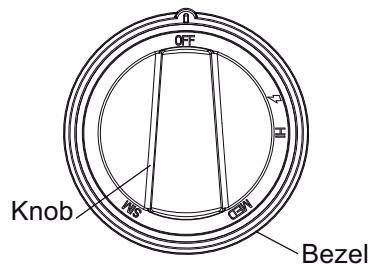

Figure 10: Standard Burner Control Knob
- Check each burner to make sure there is no gap between the burner cap and burner base. See *Figures 10 and 11: Correct and Incorrect Burner Cap Placement* to see examples of correct and incorrect placements of the burner cap.
- You may gently try to move the burner caps from side to side to check if the caps are properly placed on the burner bases. When properly placed, each burner cap will rest flat on top of its burner base, and completely cover the star-shape of the burner base when viewed from the top as shown in *Figure 10: Correct Burner Cap Placement*.